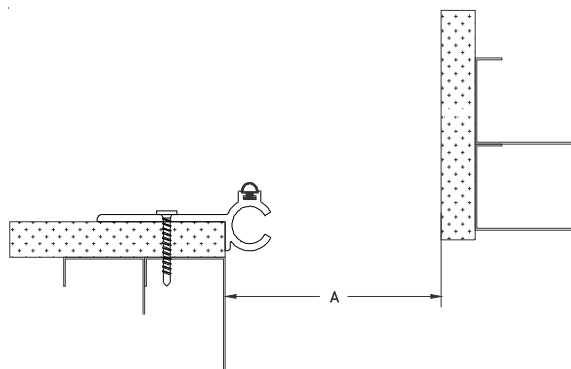

Figure 7
STEP 8. Select a base member, and place it into its installed position. Ensure that the base member is level and properly aligned and that the anchor holes in the base member are properly aligned with any anchor holes in the fire barrier retainers, or flanges, and the substrate. Using the anchors provided by the factory, attach the base member to the wall (see Figure 7).